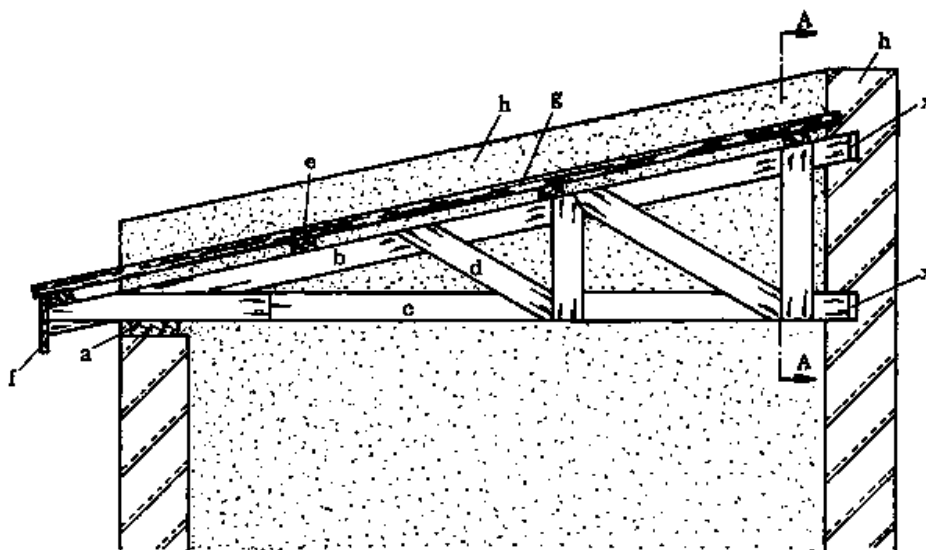
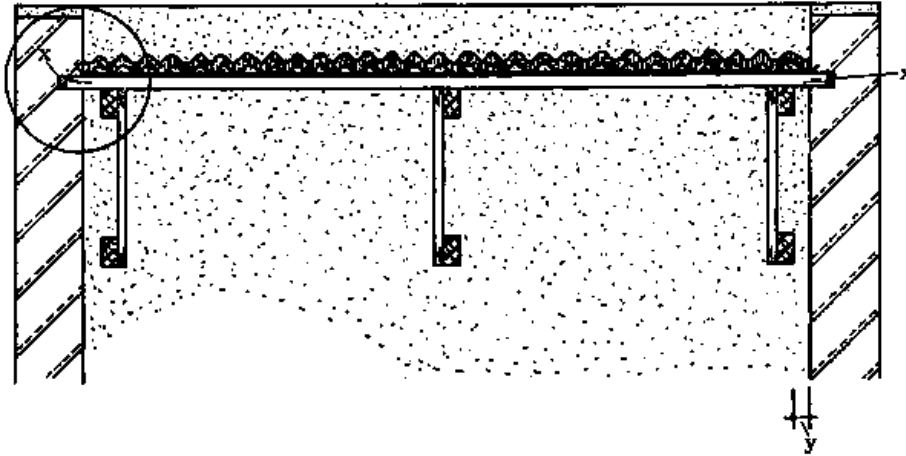
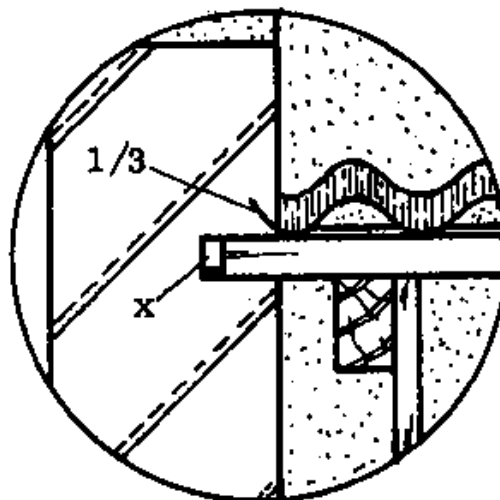

Fig. 1
Fig. 2 CROSS SECTION A-A
Fig. 2a ENLARGED DETAIL
- There should be an expansion gap at the end of each rafter and tie beam (Fig. 1, x) where they fit into the wall; and at the ends of the purlins (Fig. 2, x). The gap prevents the wall from being cracked when the wooden member expands.
- The sheet material should be fixed so that about 1/3rd of a corrugation on each side of the roof is enclosed in the wall (Fig. 2). To keep water out, this edge should be pointing upwards (Fig. 2a).
- Leave about 10 cm space between the last truss and the wall so that there is enough space for plastering (Fig. 2, y).